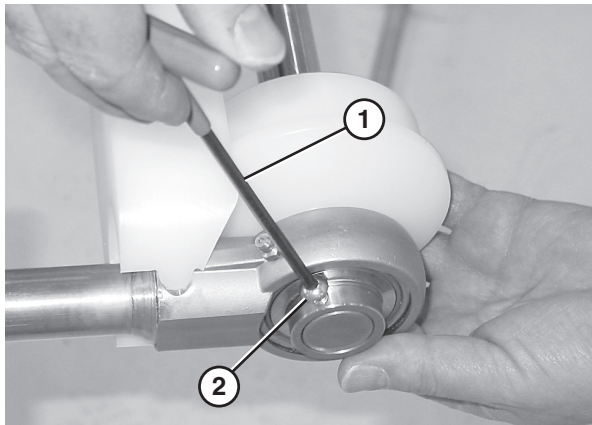

Figure 67
4. Use a hex wrench (**Figure 67, item 1**) to loosen the bearing shaft assembly fasteners (**Figure 67, item 2**).